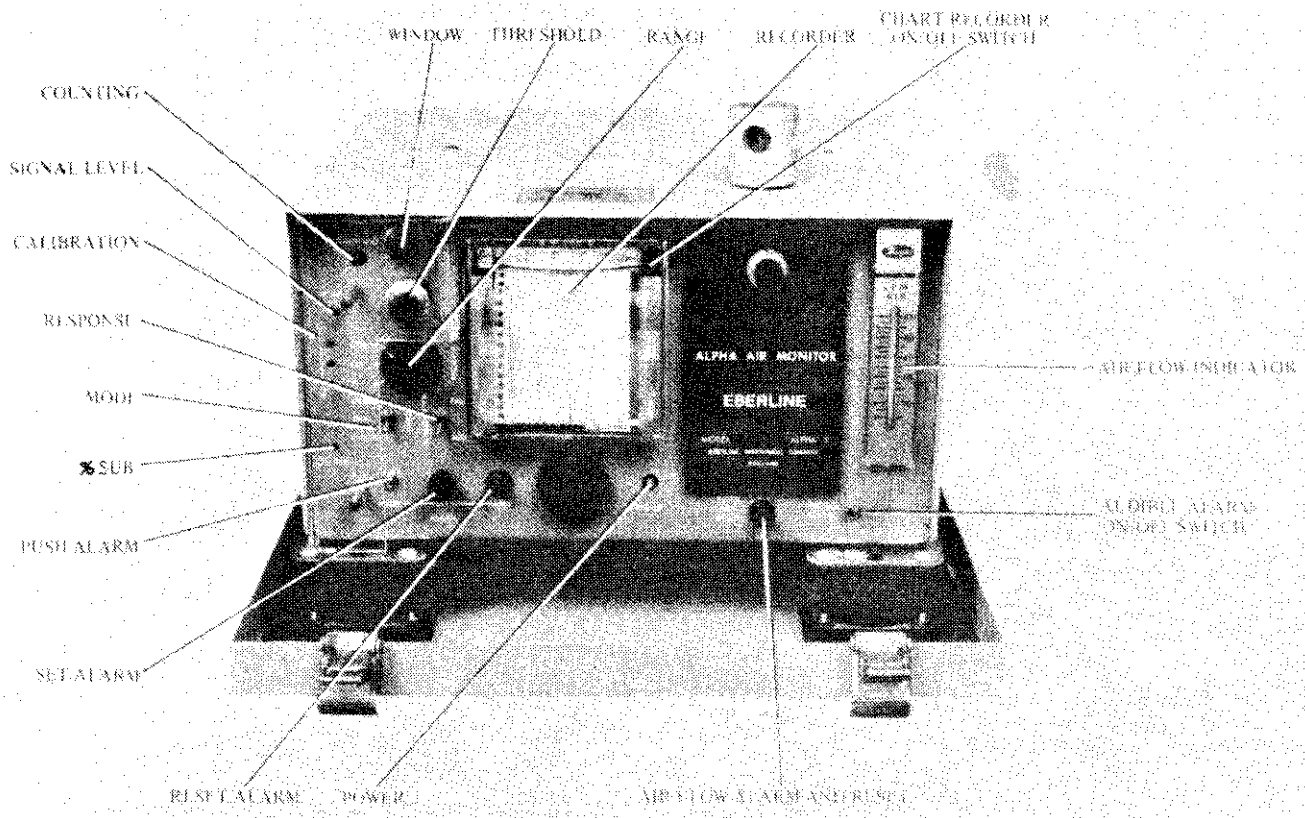

Fig. 1 Front Panel Controls
2. Figure 1 shows the location of all of the front panel controls and should be used when examining the following description of the controls and their purpose.
- 2.2 RECORDER:– Provides a permanent record of CPM over a set time period. Meter at top of recorder shows instantaneous CPM reading, the chart recorder can be switched off by switch indicated in fig. 1.